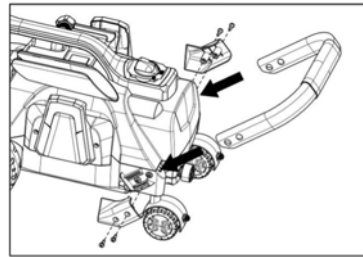

Fig.1
- Insert/line up the handle as shown in Fig.1